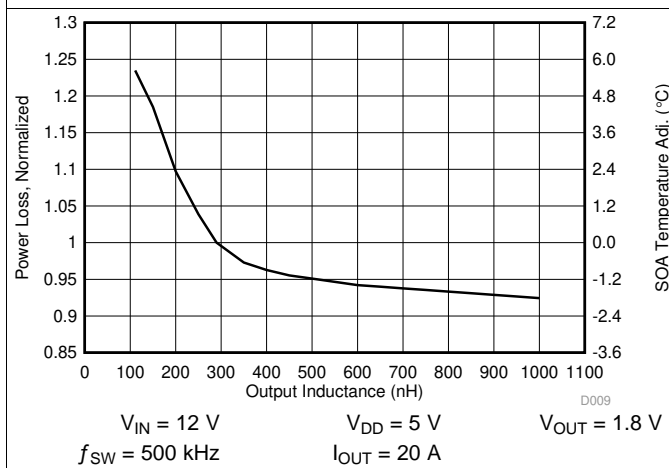

Figure 9. Normalized Power Loss vs Output Inductance
- Normalized power loss for output inductor  $\approx$  1.1 (Figure 9)
- SOA adjustment for output inductor  $\approx$  2.3°C (Figure 9)